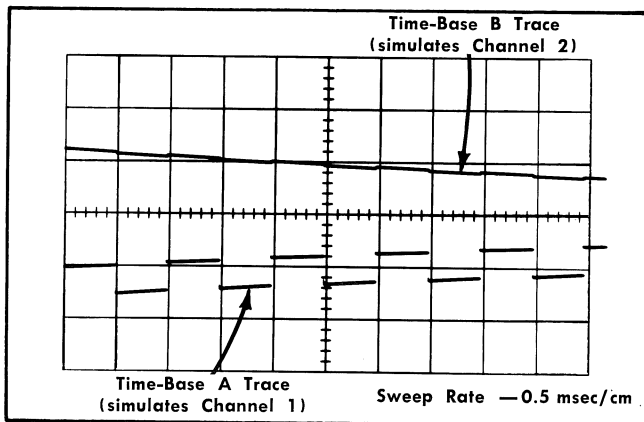

Fig. 2-1. Alternate-sweep slaving check.
7. Check that 0.5 cm of the Calibrator waveform is displayed when Time Base A is generating its sweep (lower trace), and that approximately 1 trace width of the Calibrator waveform is displayed when Time Base B generates its sweep (upper trace). Fig. 2-1 shows the oscilloscope display.